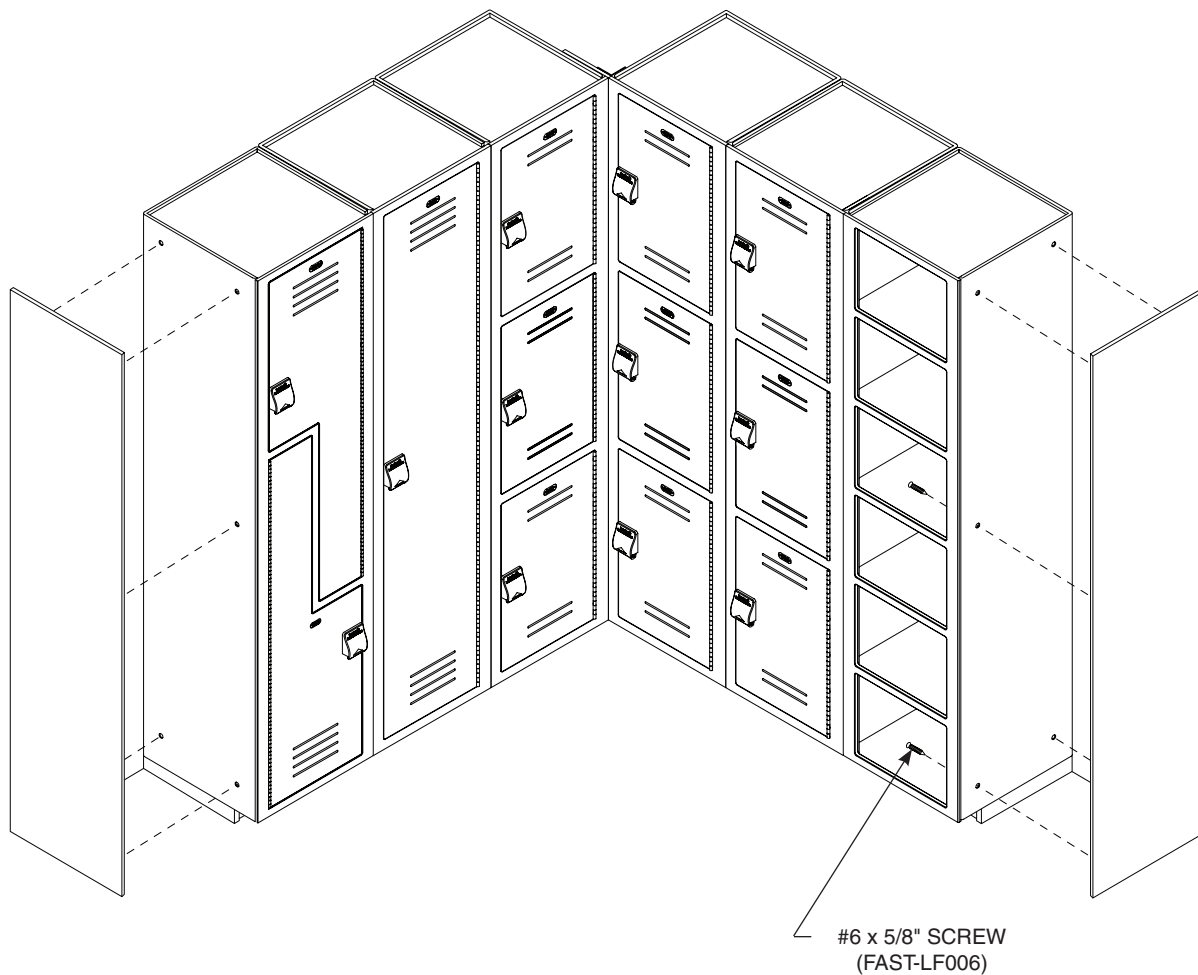

Figure 8
Optional slope top not shown in Figure 8.
1. Drill five 3/16" dia. holes through each of the exposed locker side(s) where the end panel is to be attached at the locations shown in Figure 8. Do not drill holes into the end panel.
2. Fasten the end panel to the locker(s) using the #6 x 5/8" screws provided (see Figure 8). The screws must be inserted through the inside of the locker and screwed into the end panel. The screws will not protrude through the end panel.